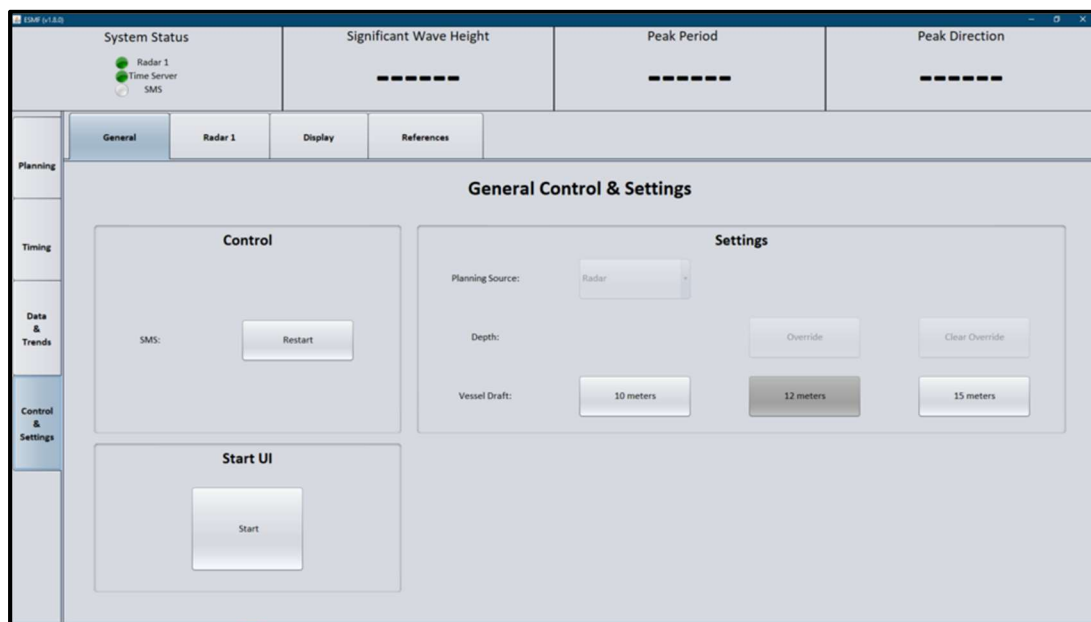

Figure 2: Initial Display - **General Tab**
3. Select the FutureWaves™ icon on the Windows Desktop and double click or press enter to start the FutureWaves™ Graphical User Interface (GUI). Once the GUI starts, the display should appear as shown in Figure 2.